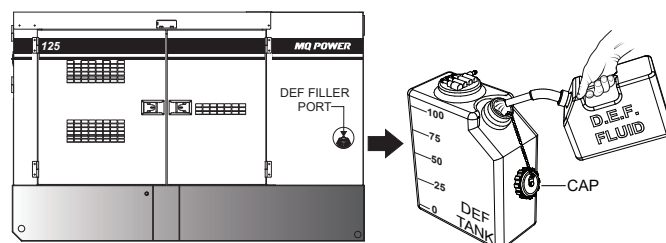

Figure 41. Filling The DEF Tank
2. Remove the cap from the DEF tank filler port (Figure 41).